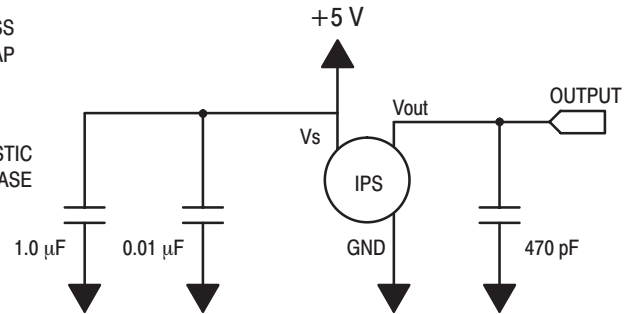

Figure 3. Recommended power supply decoupling and output filtering. For additional output filtering, please refer to Application Note AN1646.
**OPERATING CHARACTERISTICS** ( $V_S = 5.0$  Vdc,  $T_A = 25^\circ\text{C}$  unless otherwise noted, P1 > P2. Decoupling circuit shown in Figure 3 required to meet specification.)
Figure 3 shows the recommended decoupling circuit for interfacing the integrated sensor to the A/D input of a microprocessor or microcontroller. Proper decoupling of the power supply is recommended.